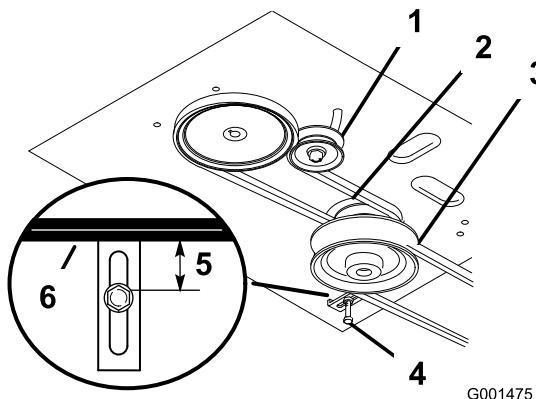

Figure 33
- Remove the mower belt; refer to Replacing the Mower Belt (Figure 33).
13. Check the belt guide under the engine frame for the proper adjustment (Figure 33).